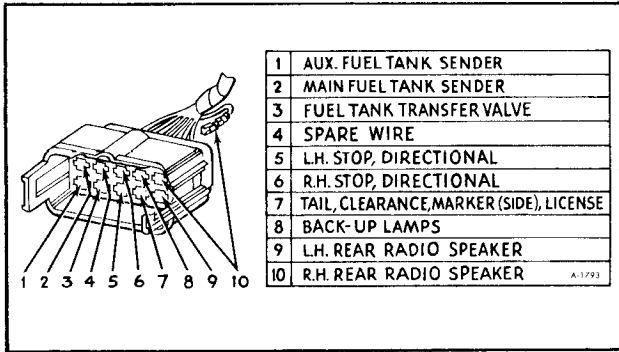

Figure 15—Left-Side Body Wiring Connector
Wiring for rear lighting, fuel tanks and rear speakers passes through a (10) way multiple connector located in the front L.H. corner of the instrument panel. Rear lighting circuits can be checked for continuity through the female portion of this connector. Figure 15 shows the (10) way multiple connector and the appropriate wire position in the connector body. Refer to the vehicle wiring diagram for wire size and code used in the rear end wiring.